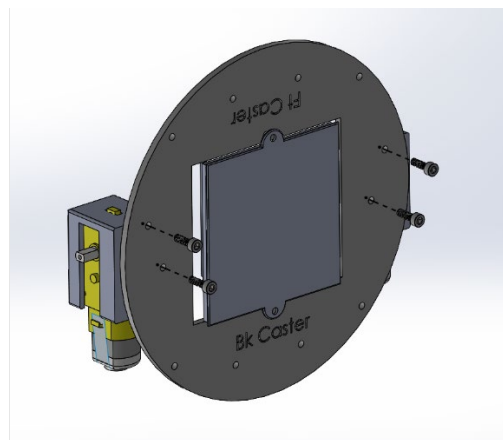

Figure 6: Attaching the motors to the robot base.
5. The side of each motor should have either an R or an L engraved on it. Starting with the left motor, place it on the left side of the base (also engraved) such that the wires face the inside of the robot and the mounting holes on the motor line up with the base. Take one of your mounting screws, and, using a Phillips head screwdriver, thread it into the bottom of the base until the head is flush with the base. Repeat with the other screw until the motor is securely in place. Repeat with the other motor. Figure 6 shows mounting the motors to the robot base.